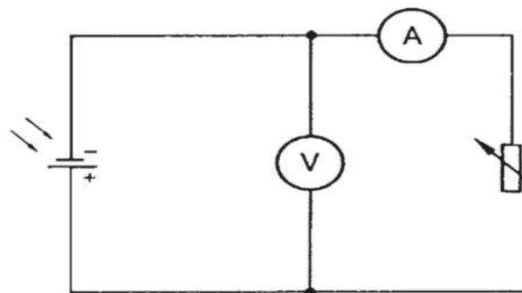

Fig. 2: Circuit for I-V characteristics of solar cell
A typical circuit for measuring I-V characteristics is shown in Fig.2. From this characteristics various parameters of the solar cell can be determined, such as: short-circuit current (I_{sc}), the open-circuit voltage (V_{oc}), the fill factor (FF) and the efficiency. The rating of a solar panel depends on these parameters.
1. Connect the solar cell to the potentiometer and multimeters as shown in Fig.2 and 4. Set the potentiometer at the minimum.